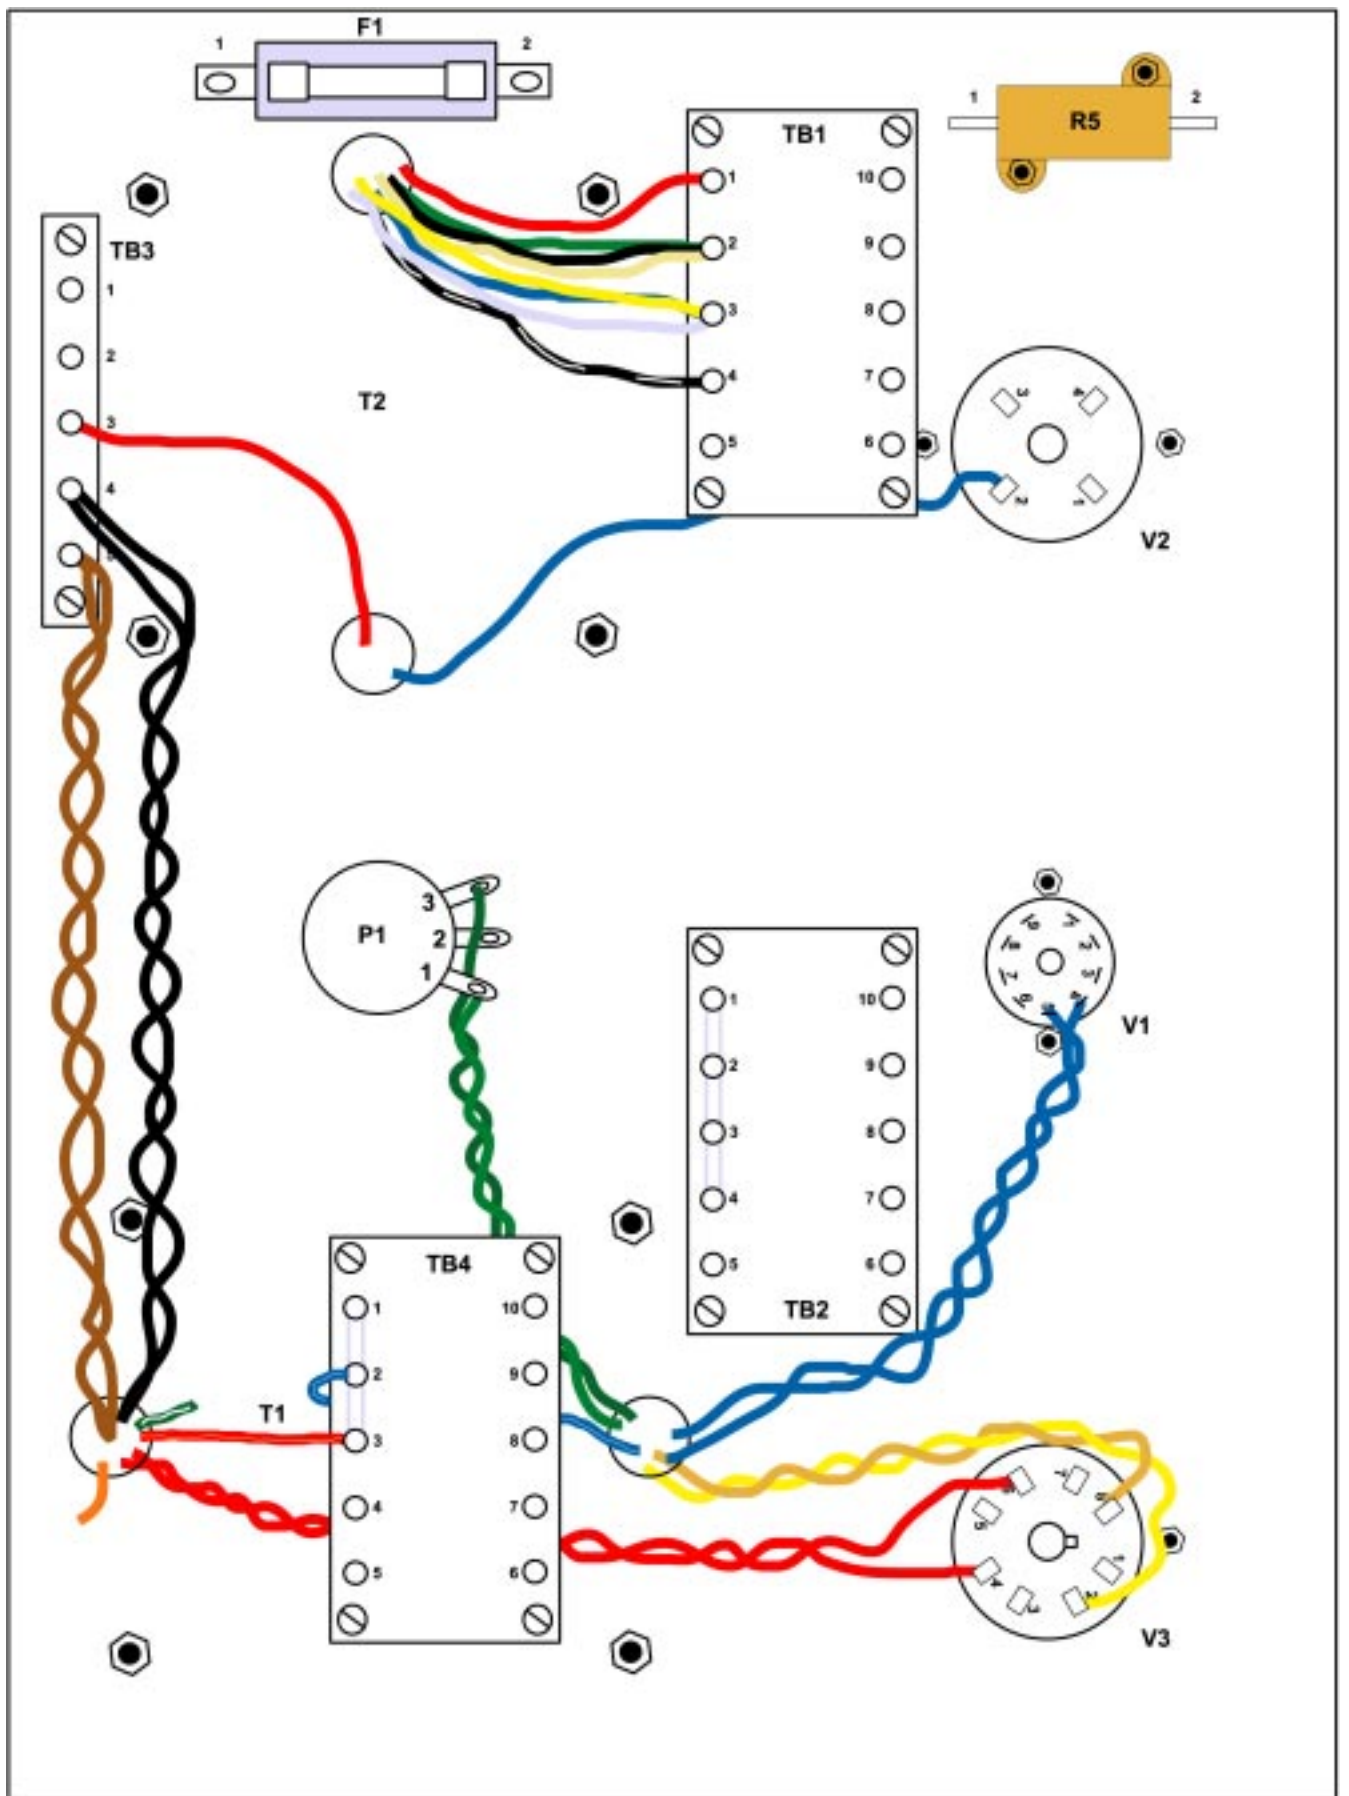

Figure 3
There are two blue leads from transformer T1. Twist these two leads together using approximately 2 twists per inch, route them as shown in figure 3, and solder one blue lead to V1-4 and the other lead to V1-5. These leads can also be routed under TB2.
Connect the blue with white striped lead of transformer T1 to TB4-2 as shown in figure 3.
There are two green leads from transformer T1. Twist these two leads together using approximately 2 twists per inch, route as shown in figure 3, and solder one green lead to P1-1 and the other lead to P1-3.
4) Connect the T1 transformer primary leads based upon your ac voltage requirements. Refer to figure 3 and the instructions below (figure 3 depicts a 120Vac connection).
Refer to the table below for the output transformer coding. The output impedances are selected by interconnecting the eight color coded **secondary** leads as shown below. Figure 3 depicts the connection for 8 ohms, however the terminals of TB1 can be used for connecting any of the configurations below. If you decide to shorten the output leads of the transformer T2, the red enamel coating on the wires must be removed before soldering to the terminals. This can be easily done by scraping with a razor blade.